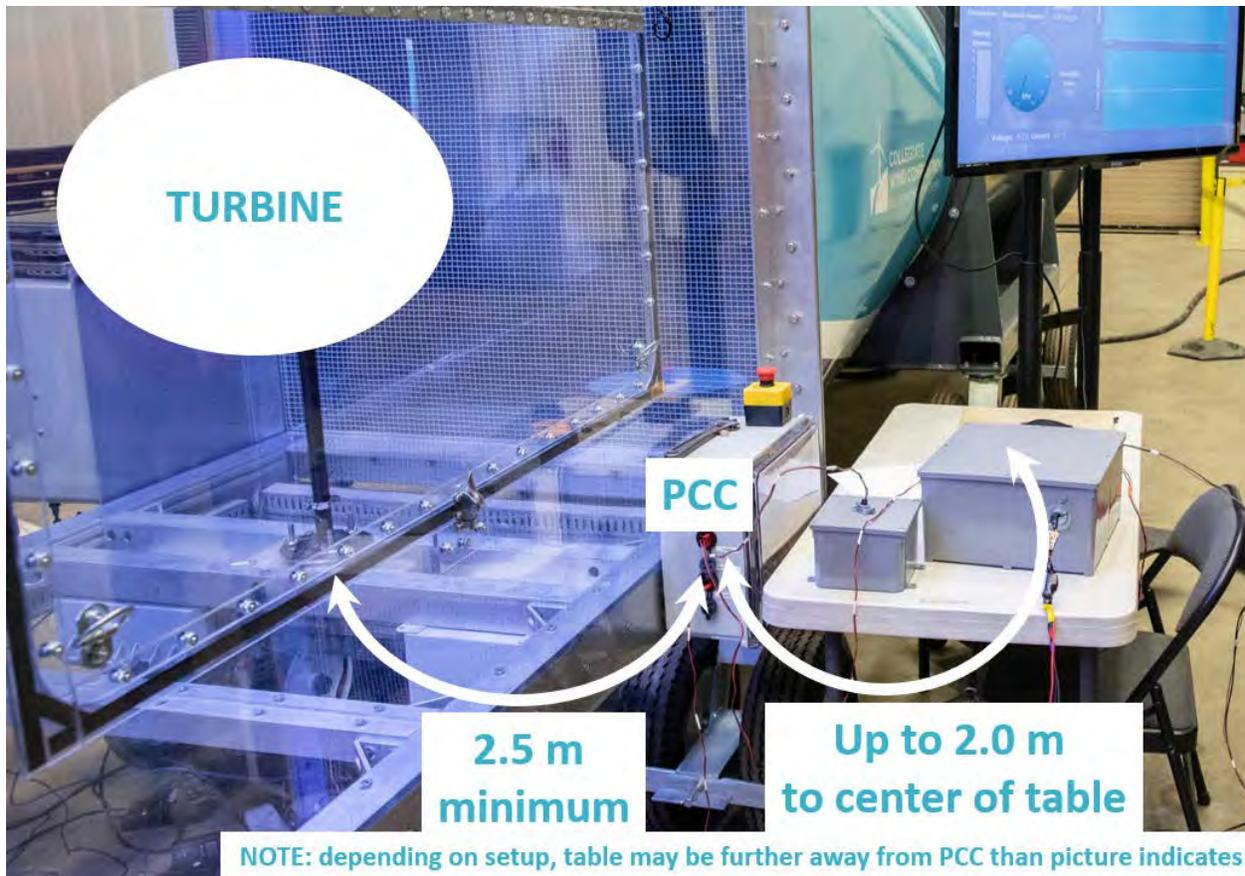

Figure 12. Wiring layout of the point of common coupling and student load display table. *Image created by Jason Roadman, NREL*
- Wires should exit the tunnel at the wind turbine base through the center of the stub. As shown in Figure 12, a table will be provided to display the load on the side of the tunnel and hold any turbine electronics enclosures external to the tunnel. Rough distances are shown in the figure, but teams should provide adequate lengths of wire to run from the PCC to accommodate their desired enclosure arrangement on the table.
- Each team must provide a cable containing two wires (no smaller than 28 American wire gauge) that reaches the PCC, as labeled in Figure 12. This cable must be terminated, prior to the competition, with a standard JST RCY female receptacle housing connector (Manuf. P/N: SYR-02T housing using SYM-001T-P0.6(N) for the corresponding male pin contacts) (Figure 14).